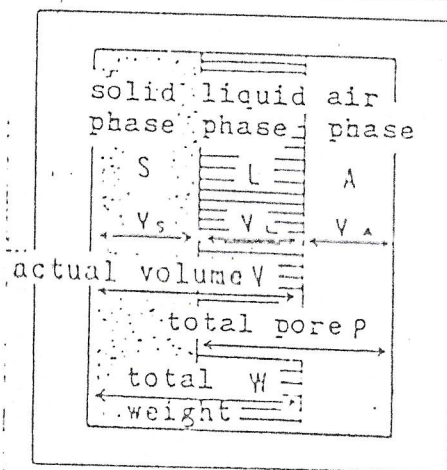

Fig. 1
- 1) The soil is a substance having a grained structure, and consists of three phases, i.e., the solid phase, the liquid phase and the air phase, as shown in Fig.1. The actual volume means the total of the volumes of the solid phase and the liquid phase. This unit is an instrument measuring the actual volume of the soil directly.